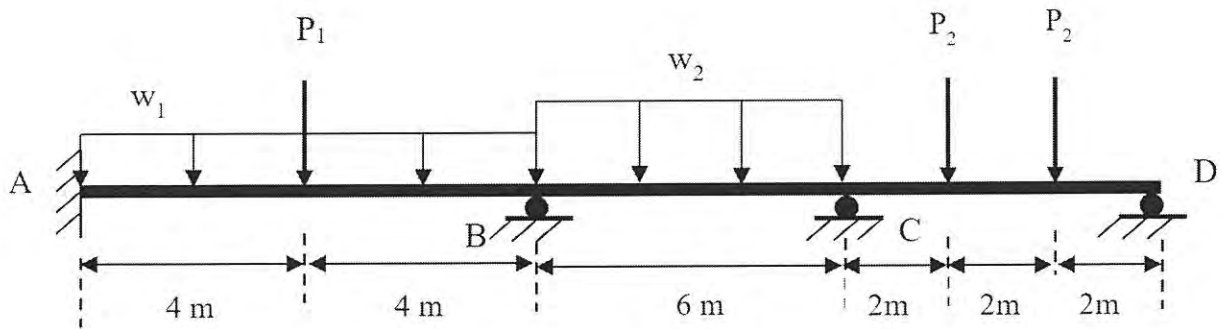

FIGURE Q4(b)
- (b) **Figure Q4(b)** shows a continuous beam with point load acting at 4 m from point A, 2 m from point D. Uniform load of 10 kN/m and 30 kN/m each is acting on span AB and span BC, respectively.